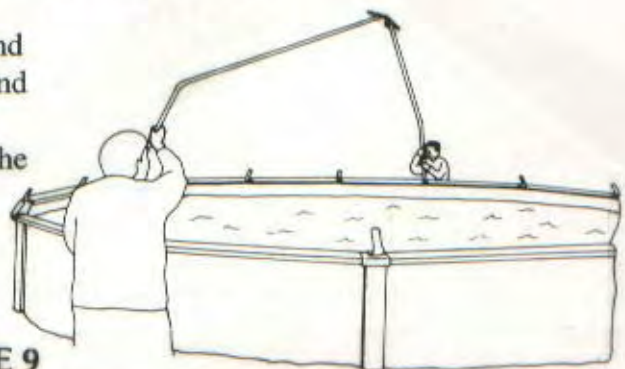

FIGURE 9
- D. With one person holding each rafter end and pushing towards the spider, carefully lift and walk the assembly over the pool at the longest measurement. Place the rafters in the mounting brackets. See Figure 9.